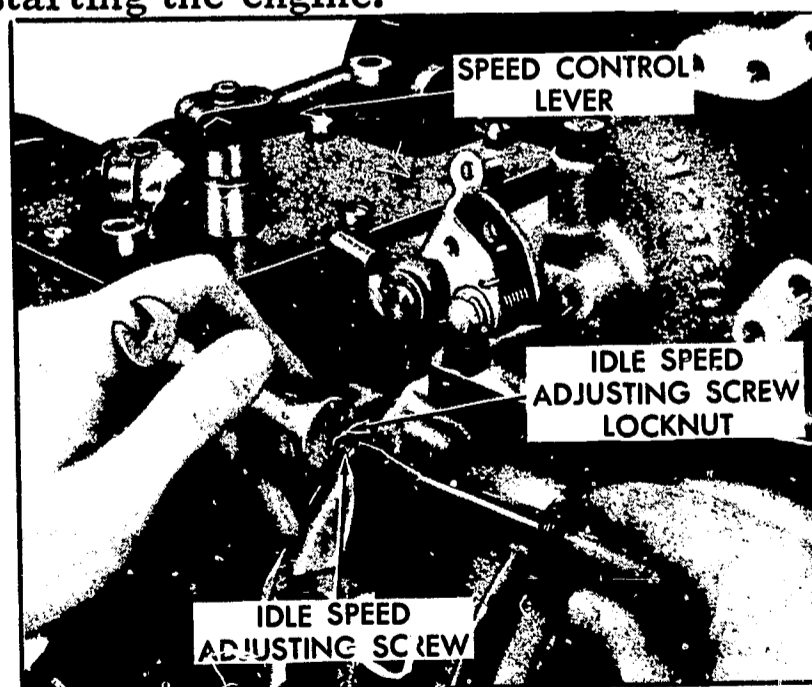

Fig. 10 - Adjusting engine idle speed.
1. With the engine running, at normal operating temperature and with the buffer screw backed out to avoid contact with the differential lever, turn the idle speed adjusting screw until the engine idles at the recommended idle speed. See Figure 10.